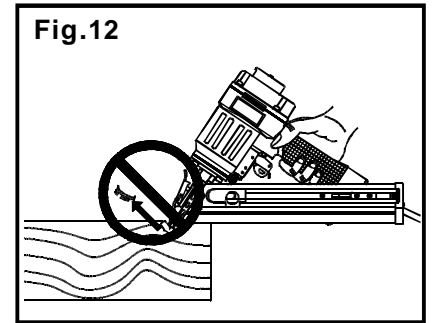

Fig.12
**22. DO NOT DRIVE FASTENERS** on top of other fasteners, or with the tool at too steep an angle: the fasteners can ricochet causing personal injury. (See Fig.12)